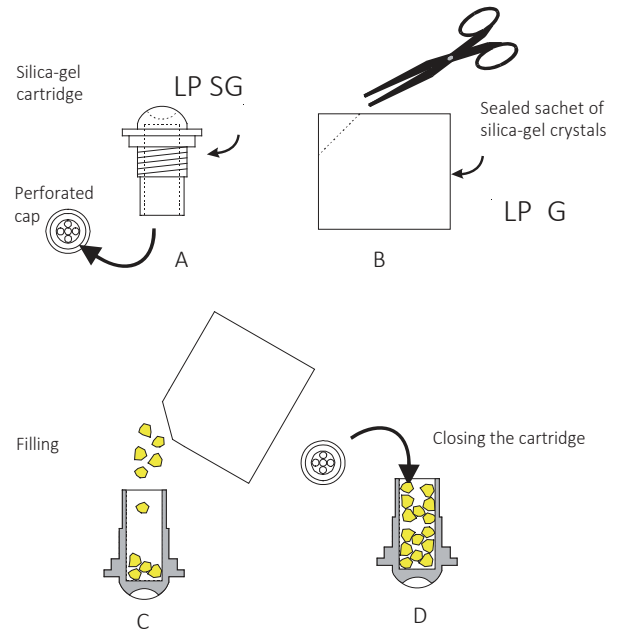

Fig. 3
- Figure 3 briefly explains the necessary steps to fill the cartridge with the silica-gel crystals.